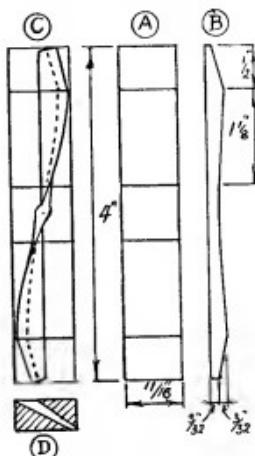

Fig. 43.
In Fig. 43 is shown the manner in which our model airscrews are constructed. The drawing (A) shows the face of a block of wood (almost any wood will suffice), 4 in. long by $11/16$ in. wide. Drawing (B) shows the side elevation of the block, and it will be seen that it is chamfered off at both tips, and slightly tapered inwards towards the boss. Diagram (C) shows this block with the propeller shape inscribed upon it. This done, the propeller blank should be cut out along the edges of the drawing. Now, on one side
smoothly into a neat twist. By cutting from the dotted line to the lower edge of the blades the pitch of the airscrew will develop automatically. One face of the propeller will be curved, and the other side flat; the side which we marked "Front" will be set towards the front of the aeroplane, and will be the curved side, as the airscrews are of the "pusher" type. Our drawing, Fig. 43, is of the airscrew in the left-hand side of the photograph.
It must be remembered that the airscrews revolved in opposite directions to each other, and that the right-hand one must, therefore, be carved in an opposite manner from that of the left. To do this, it will only be necessary to take a tracing of the drawing (C) in Fig. 43, reverse it, and trace through on to another piece of wood. In this way, the curved edge of the top blade will be to the left of the centre line, and the curved edge of the lower blade to the right. Proceed to carve as before, and the airscrews will develop correctly.